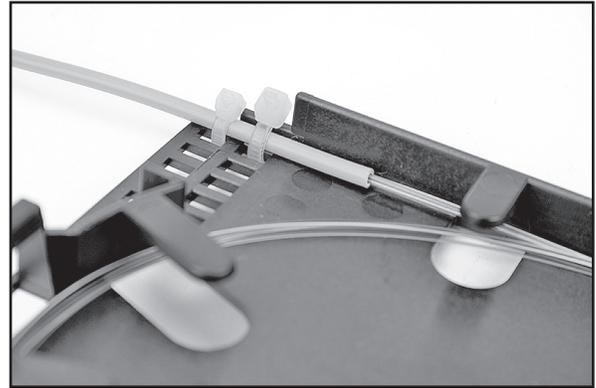

Figure 23
- 5.3 Route the fibers into the tray. Secure buffer tube with cable tie. (See Figure 23)